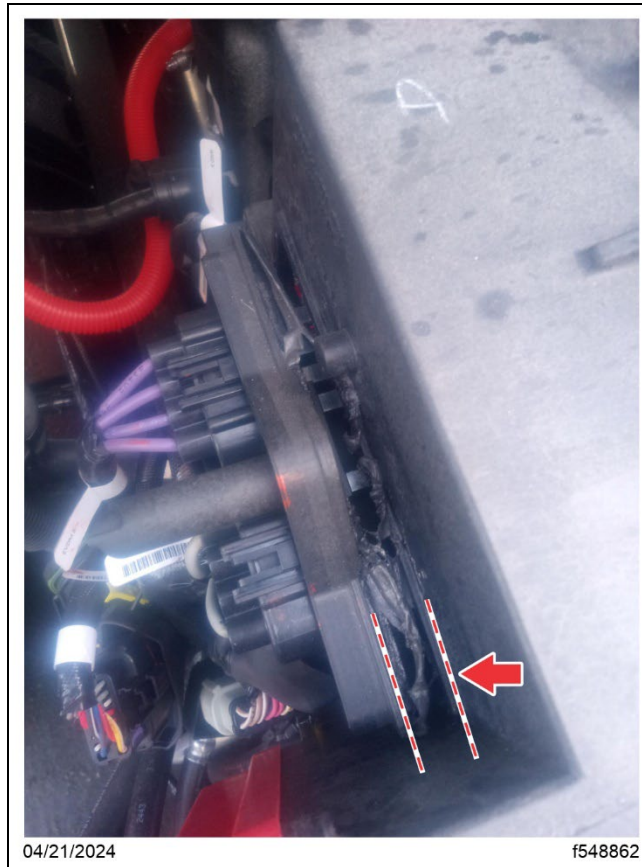

Fig. 3, Connector Plate Pulling Away from the EVDM
7. Inspect the EVDM for separation between the connector plate and the EVDM. See Fig. 3.